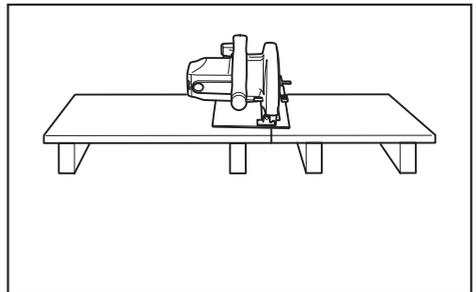

Fig. 1
8. **Support Large Panels (Fig. 1 & 2).**
Large panels must be supported as shown in Fig. 1 to minimize the risk of blade pinching and kickback.
10. **Guard Against Kickback.** (Fig. 1 & 3)
Kickback occurs when the saw stalls rapidly and is driven back towards the operator. Release switch immediately if blade binds or saw stalls. Keep blades sharp. Support large panels as shown in Fig. 1. Use fence or straight edge guide when ripping. Don't force tool. Stay alert-exercise control. Don't remove saw from work during a cut while the blade is moving. NEVER place your hand or fingers behind the saw. If kickback occurs, the saw could easily jump backwards over your hand, possibly causing severe injury.